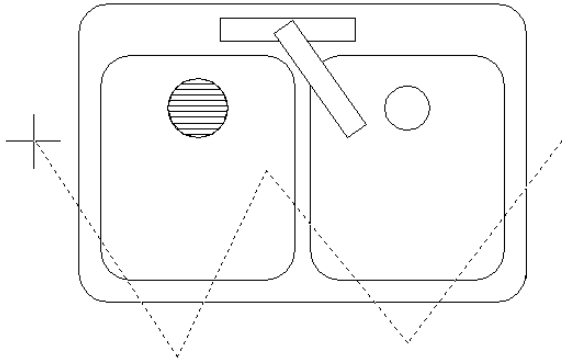
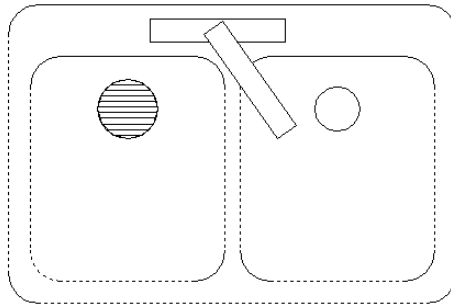

Figure 9-17: Using a fence to select objects.
Figure 9-18: The selected objects are highlighted.
- ♦ **Fence:** The Fence option enables you to specify a series of temporary lines to select any object crossing the lines. Figure 9-17 shows the process of defining a selection fence. Figure 9-18 shows the result — the selected objects are highlighted.